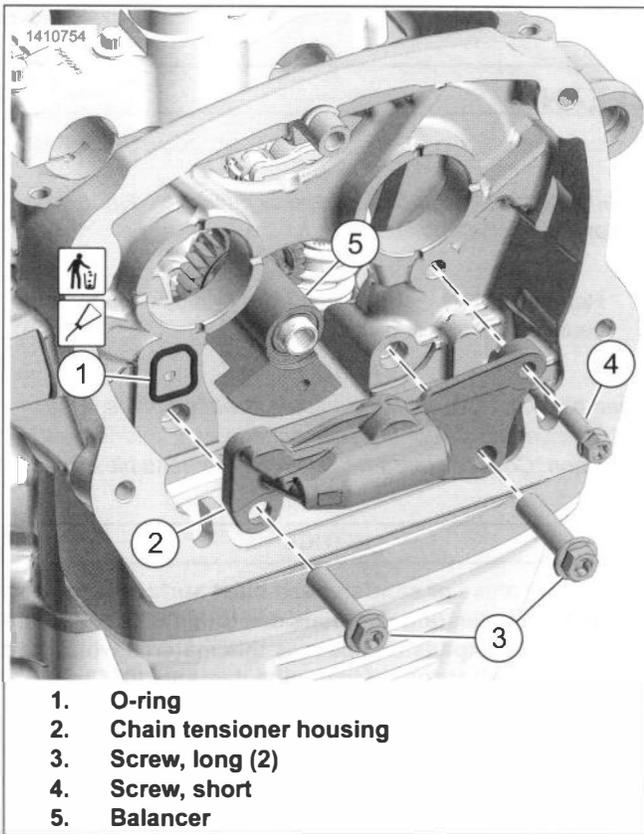

Figure 4-37. Chain Tensioner
- Insert cam chain retraction pin (1) into access hole (2).
- See Figure 4-37. Remove screws (3, 4).
- Remove chain tensioner housing (2).
- Discard O-ring (1).
- See Figure 4-37. Remove balancer (5).
- See Figure 4-37. Install balancer (5).
- b. Insert cam chain retraction pin (1) into access hole (2).
2. See Figure 4-37. Install chain tensioner.
- a. Lubricate **new** O-ring (1) with fresh engine oil.
- b. Install O-ring (1) to chain tensioner housing (2).
- c. Install chain tensioner housing (2).
- d. Install long screws (3). Tighten.